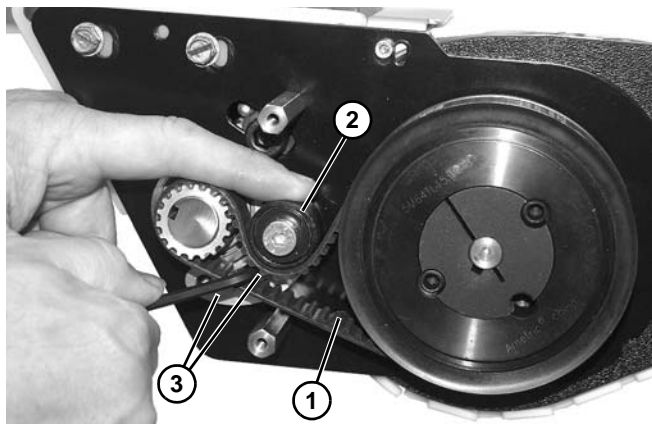

Figure 182
- On drive end, route and install belt (**Figure 182, item 1**) as shown. Press down on tensioner (**Figure 182, item 2**) and tighten two socket head screws (**Figure 182, item 3**).